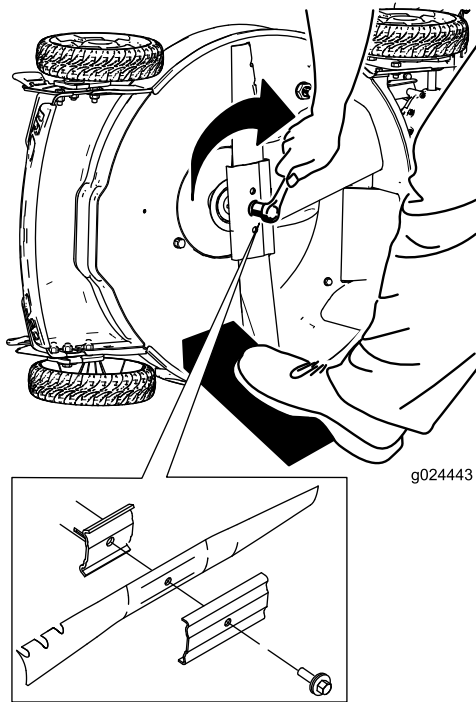

Figure 32
5. Install the new blade by turning the blade bolt clockwise (Figure 32).